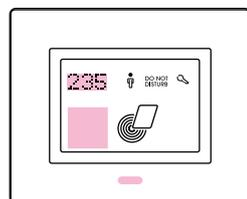

Fig. 3
- a) all logos/marks/symbols/writings, etc. can be placed only inside the red area (not lighted area) and/or green area (lighted area) as shown in the picture below (fig. 3, 3A, 3B, 3C);